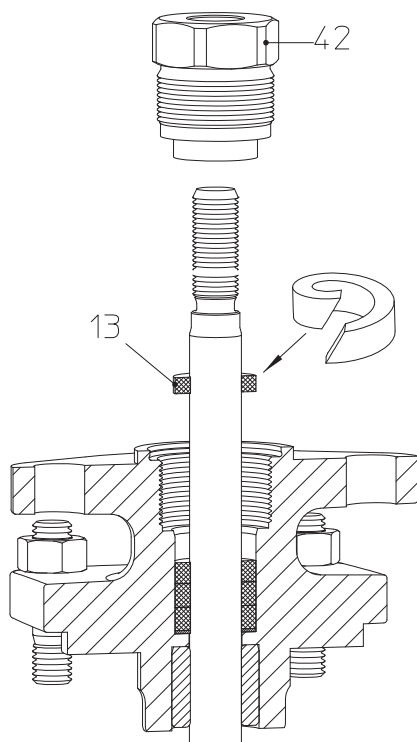
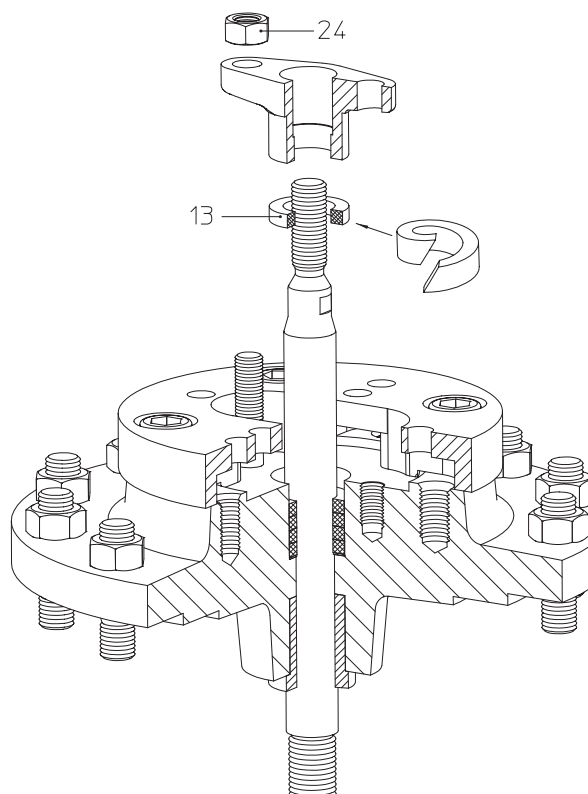

Fig. 15: Stuffing box packing DN15-150
Fig. 16: Stuffing box packing DN125v-150v
- Insert new packing ring as shown in the Fig. 15 and Fig. 16.